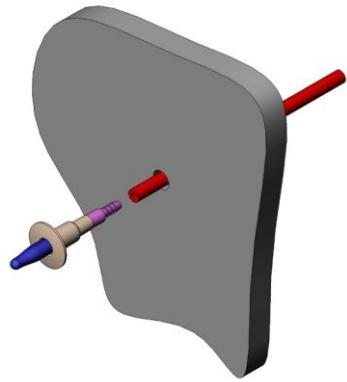

Figure 2: Tubing through wall
2. Drill a 7/16" hole where you want the pressure port mounted. Pull the pneumatic tubing through the hole and push the pressure port into the tubing until all the barbs are covered (Figures 2 and 3).